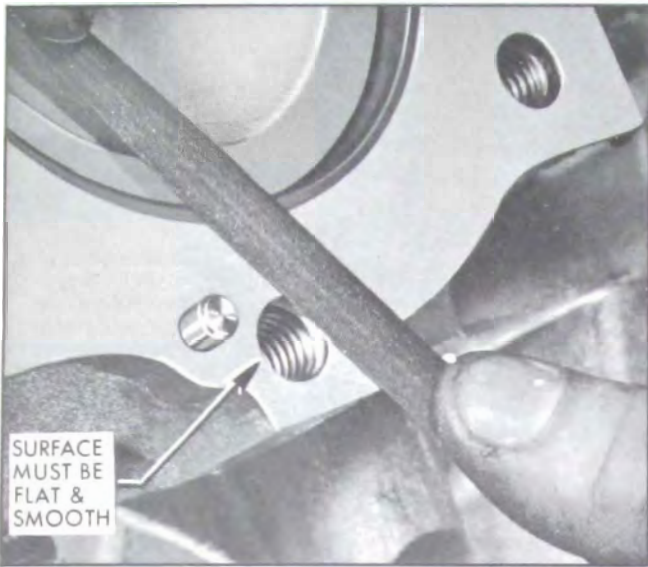

Figure 2-75—Smoothing Surface Around Insert
5. Make sure the surface is smooth, particularly if it is a gasket surface. Use a flat file and carefully smooth the surface around the repaired hole. The drilling and tapping operations may raise the metal, preventing proper fits unless the surface is smoothed. See Figure 2-75.